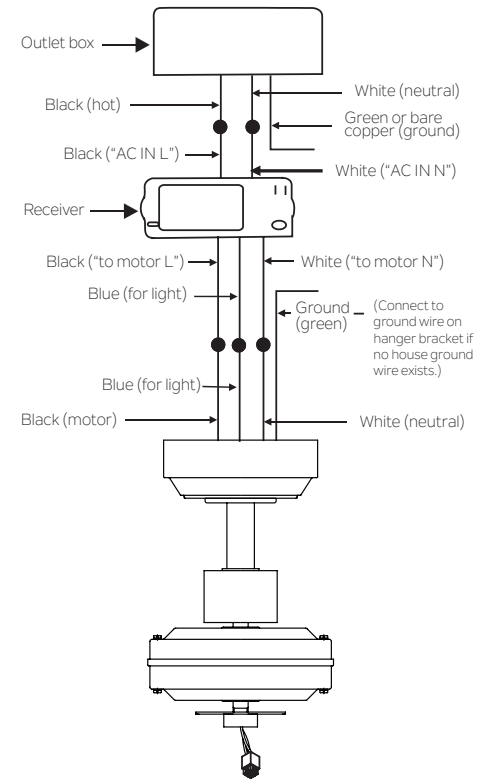

Fig. 14
## Step 2. Motor to Receiver Electrical Connections: (Fig. 14)
## Step 3. (Fig. 14) Receiver to House Supply Wires Electrical Connections:
**Step 4.** (Fig. 14) If your outlet box has a ground wire (green or bare copper) connect it to the fan ground wires; otherwise connect the hanging bracket ground wire to the mounting bracket. Secure the wire connection with a plastic nut provided. After connecting the wires, spread them apart so that the green and white wires are on one side of the outlet box and black and blue wires are on the other side. Carefully tuck the wire connections up into the outlet box.